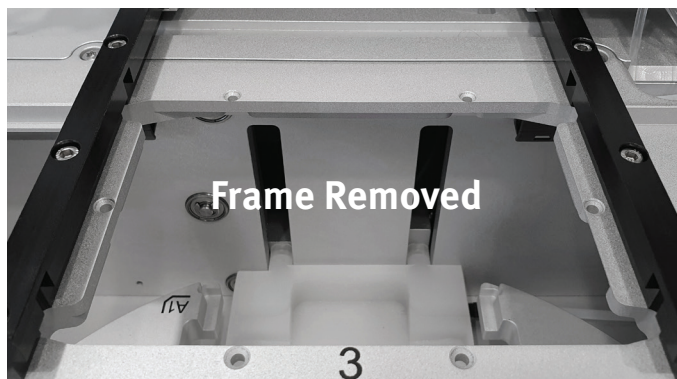

Figure 54. With the plate/rack frame removed, it is possible to run DFE methods.
6. In the **Confirm Removal of Frame** dialog, press **OK** to confirm that the plate/rack frame is removed (see Figure 54).